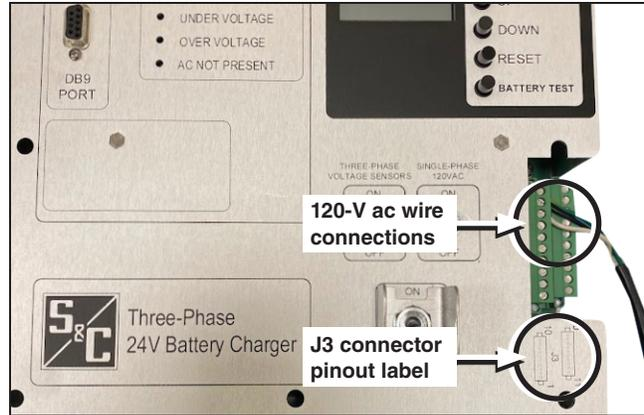

Figure 18. 120-Vac wires connected to the J3 connector. The J3 connector pinout label is used as a reference for wire connection locations.
- STEP 2.** Using a small flathead screwdriver, connect the 120-Vac power source wires to the J3 connector by connecting the ground wire to pin 10, the line (hot) wire to pin 9, and the neutral wire to pin 8. See the J3 connector pinout label on the charger faceplate for exact pin locations to terminate the wires. See Figure 18 on page 18. For a description of wiring connector installation, see Appendix B on page 26.